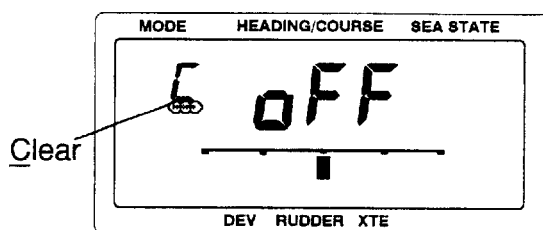

Fig. 6-2 Indication before clearing the memory
1. Turn on the equipment while holding down . Press  twice. The display should look like Fig. 6-2.